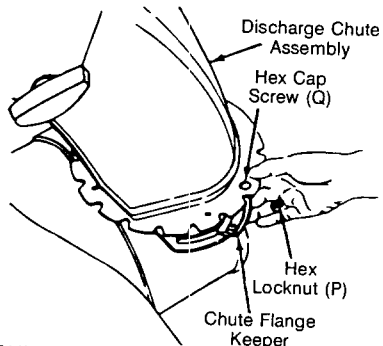

FIGURE 7
- Insert hex cap screws (Q) up through chute flange keeper and chute assembly as shown in figure 7. Secure with hex locknuts (P). Tighten with two 7/16" wrenches. Do not over tighten.